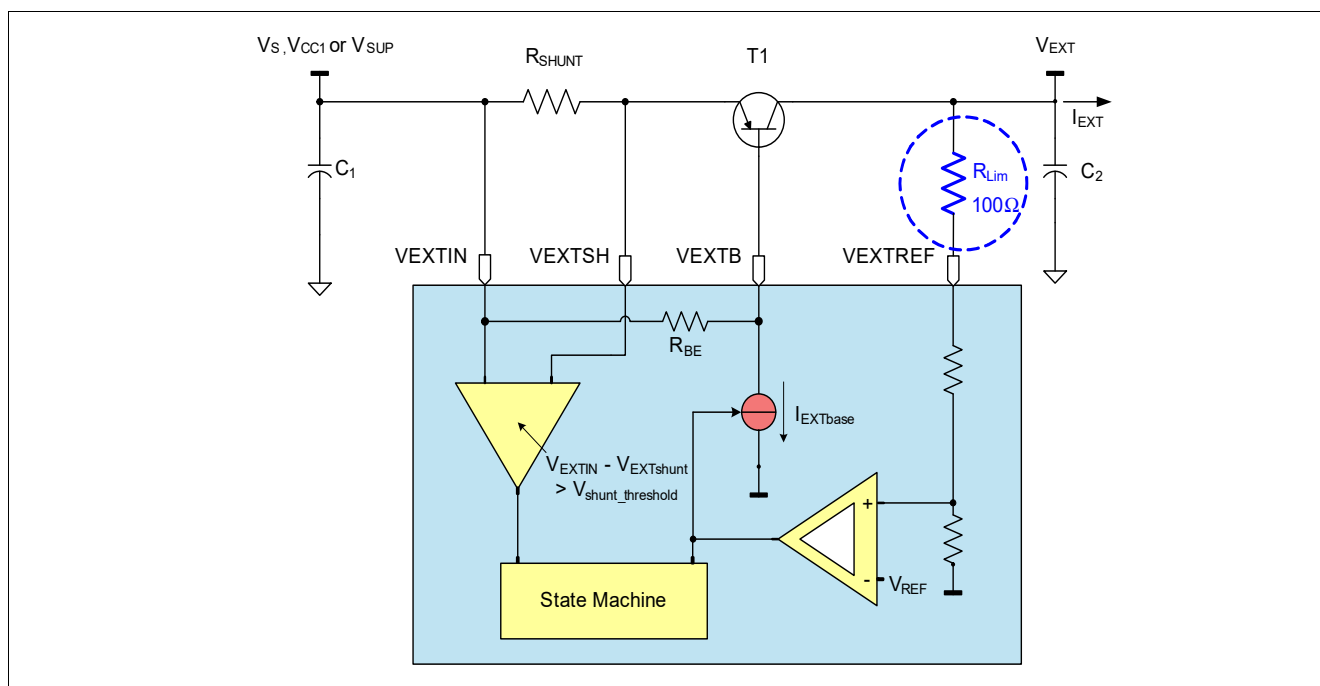

Figure 21 VEXT Hardware Setup
*Note: If the VEXT output voltage is supplying external off-board loads, the application must consider the series resonance circuit built by cable inductance and decoupling capacitor at load. Sufficient damping must be provided(e.g. series resistor with capacitor directly at device or 100 Ω Resistor between PNP collector and VEXTREF with 10 μF cap on collector (see Figure 21).*
Figure 21 shows the hardware set up used.